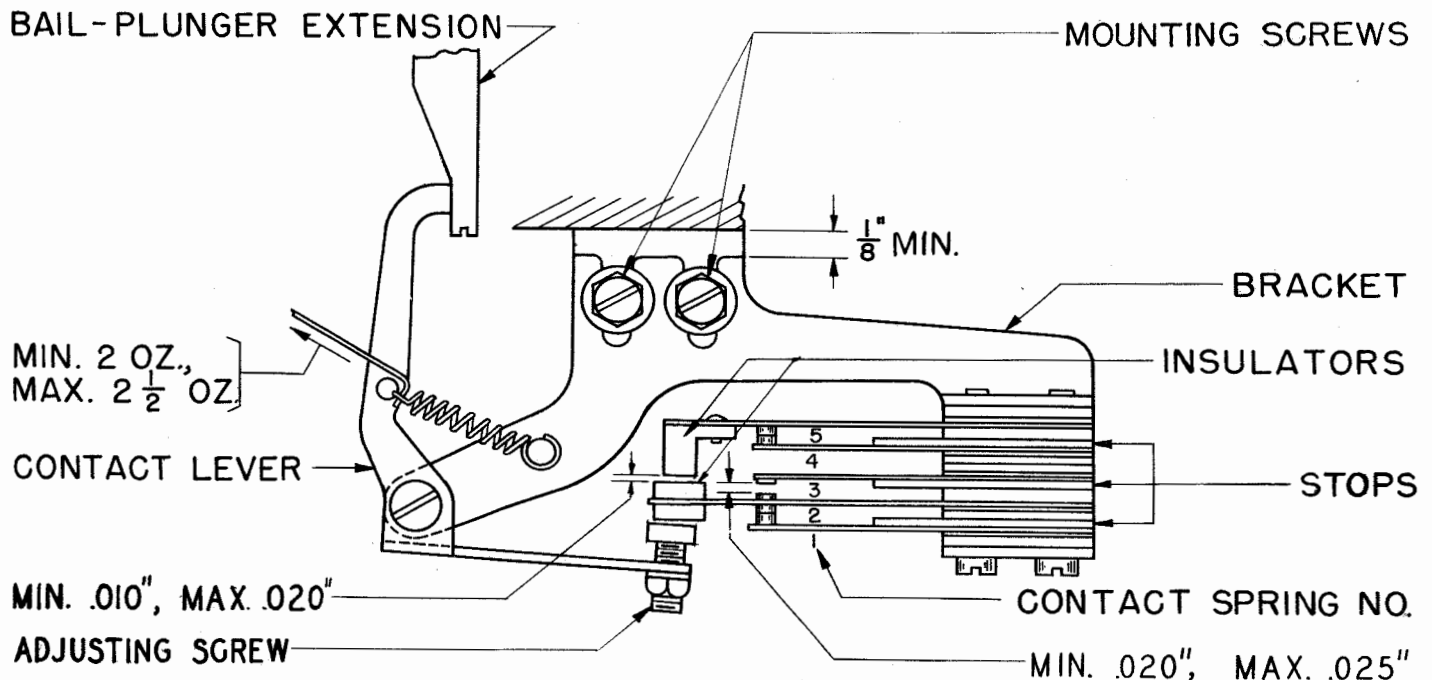

Figure 73
(a) No. 4 Contact Spring: With its stop parallel to the mounting surface and the No. 5 contact spring held away from the No. 4 contact spring, it shall require minimum 1-1/2 ounces, maximum 2-1/2 ounces to separate each section of the No. 4 contact spring from its stop. See Figure 73.
(b) No. 5 Contact Spring: With the insulator tip of the No. 2 contact spring held away from the insulator tip of the No. 5 contact spring, it shall require minimum 2 ounces, maximum 3 ounces to separate the contact of the No. 5 spring from the No. 4 spring contact. See Figure 73.
(c) No. 1 Contact Spring: With its stop parallel to the mounting surface and the No. 2 contact held away from the No. 1 contact, it shall require minimum 1-1/2 ounces, maximum 2-1/2 ounces to separate the No. 1 contact spring from its stop. See Figure 73.
(1) With the No. 5 contact-spring tip insulator blocked away from the No. 2 contact-spring tip insulator and, if necessary, the No. 3 spring contact held away, it shall require minimum 2 ounces, maximum 3 ounces to separate the No. 2 and No. 1 contacts. See Figure 73.
(2) With the No. 5 spring returned to its unoperated position, there shall be a clearance of minimum 0.010 inch, maximum 0.020 inch between the No. 5 and No. 2 contact-spring tip insulators. See Figure 73.
(1) It shall require minimum 1 ounce, maximum 2 ounces to separate the No. 3 contact spring from its stop. See Figure 73.
Note: Remount the universal-contact assembly on the base bracket. There shall be at least 1/8 inch clearance between the top edge of the universal-contact bracket and the milled section on the base casting. See Figure 73.
inch, maximum 0.025 inch between the No. 5 and No. 4 spring contacts. See Figure 73.
2.142 Universal Contact-lever Spring: It shall require minimum 2 ounces, maximum 2-1/2 ounces to pull the spring to position length when the universal-contact lever is resting on the high camming surface of the bail-plunger extension. See Figure 73.